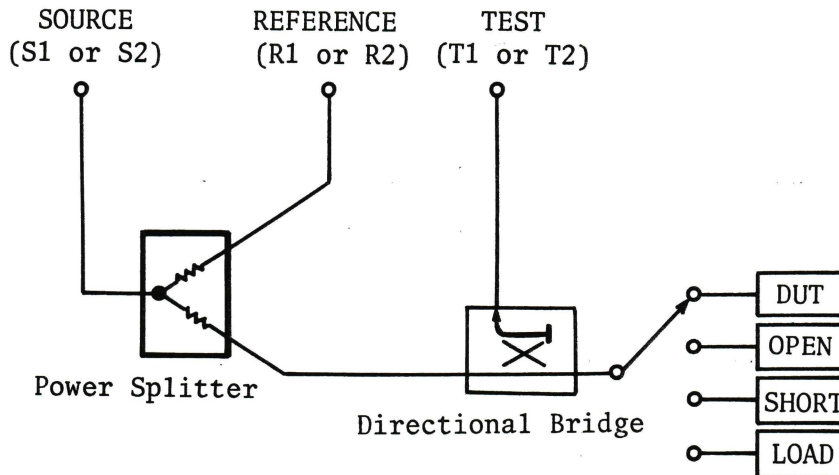

Figure 4-3. Reflection Calibration Diagram
2. Connect a directional bridge, a power splitter and the network under test as appropriate for the selected measurement -- the DUT position shown in Figure 4-3.
15. Disconnect the network under test, and connect the SHORT reference termination -- the SHORT position shown in Figure 4-3.
17. Disconnect the SHORT reference termination, and connect the LOAD reference termination -- the LOAD position shown in Figure 4-3.
19. Disconnect the LOAD reference termination, and connect the OPEN reference termination -- the OPEN position shown in Figure 4-3.
21. Connect the network under test -- the DUT position shown in Figure 4-3.